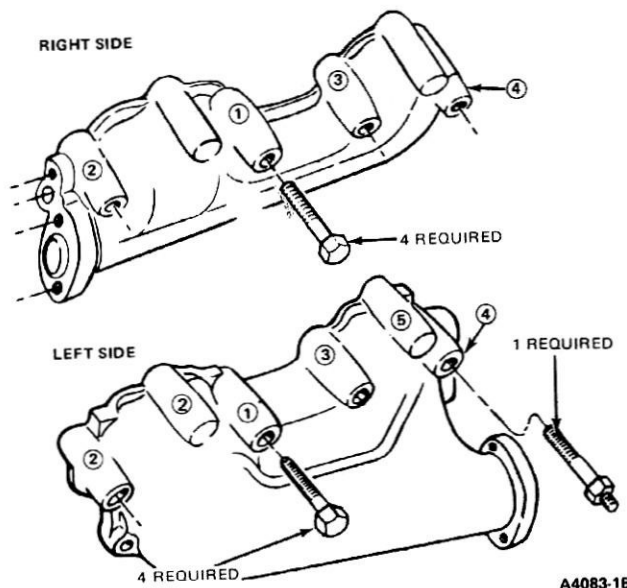

FIG. 11 Exhaust Manifold Torque Pattern—Pinto/Bobcat 2.8L Shown—Mustang II Same Pattern
1. Position the manifold on the studs and install and torque the attaching bolts in sequence to specification (Fig. 11).